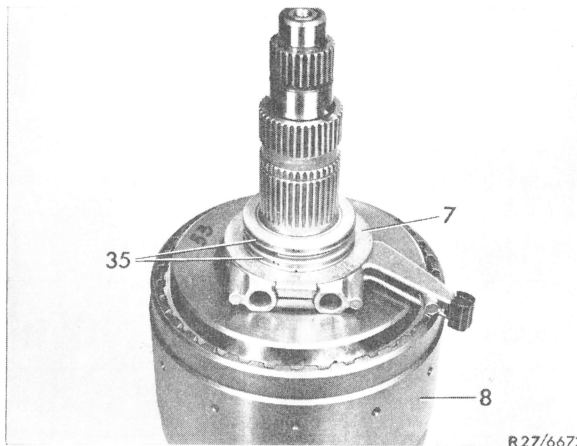

Fig. 6
8 Pull oil feeding sleeve (7) from supporting flange of K 2 (8) and remove (Fig. 6).